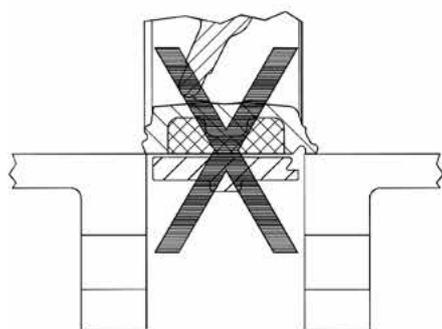

fig. 1
- never try to force a valve between flanges which are not open enough to allow the insertion of the valve as you might seriously damage the sealing areas on the flanges (fig. 1)